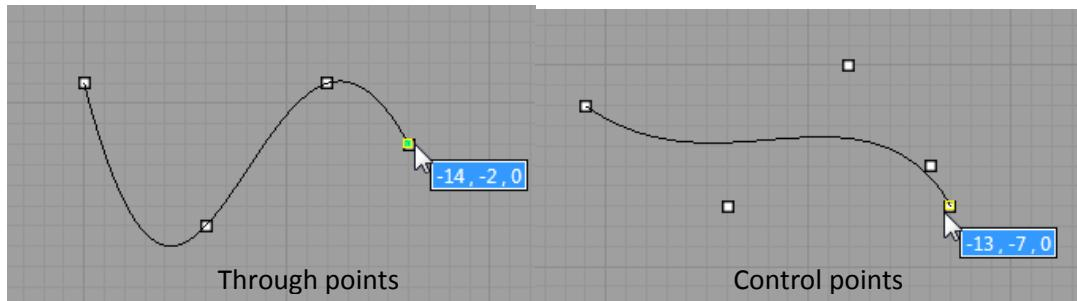

Figure 11. Creating freeform curves.
1. **Through points:** The curve passes through the entered points as shown in Figure 11. This is the default option. The dot points are the entered points.
2. **Control points:** The curve does not pass through the entered points, but its alignment is defined by each control points entered as shown in Figure 11.